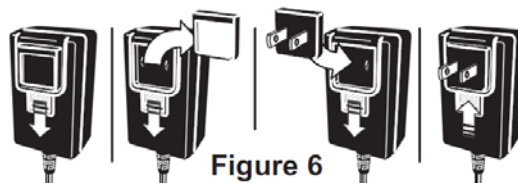
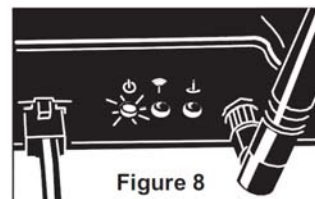

Figure 6
Figure 8
4. Locate the power adapter in loose parts. Remove the protective insert and install the plug appropriate for your region (Figure 6). Plug the power adapter into a power strip or surge protector, or wall outlet. Toro recommends using a surge protector.
1. Plug the adapter's power cord into the base station (Figure 6). The BaseStation is going to power on and the Power LED will light (Figure 8).